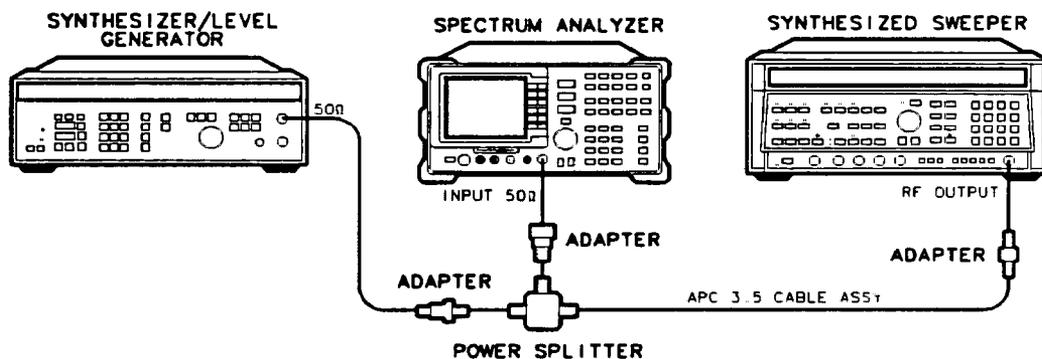

Figure 4-6. Frequency Span Accuracy Test Setup (Spans < 500 MHz)
8. Connect the equipment as shown in Figure 4-6. Note that the power splitter is used as a combiner.